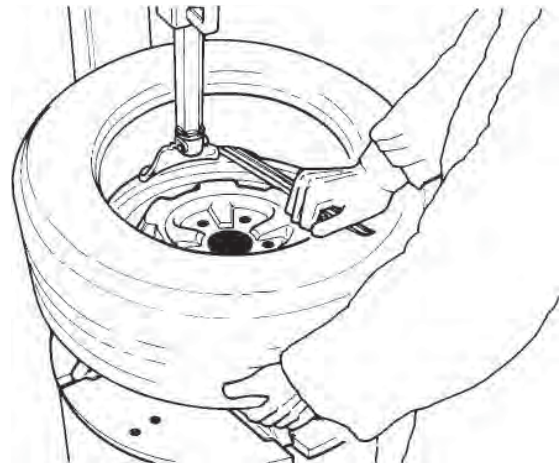

Fig. 4.1-7
**H. Repeat the process for removing the lower bead. This time, lift the bead opposite to the mount/demount head to keep it in the drop center (Fig. 4.1-7).**